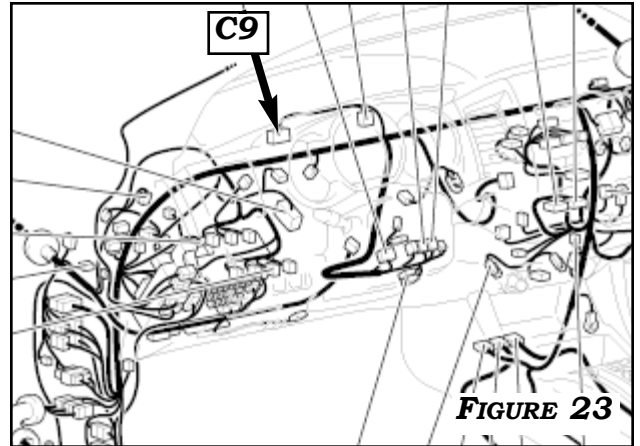
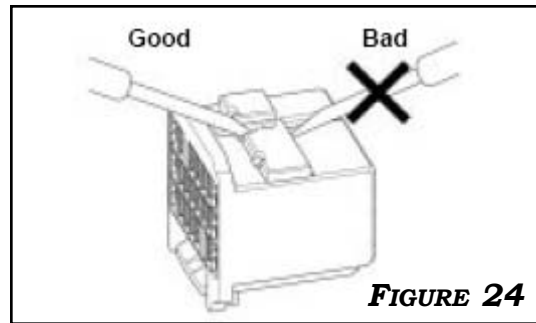

FIGURE 23
FIGURE 24
1. LOCATE WHITE CONNECTOR **C9** AT THE COMBINATION METER. **FIGURE 23**. REMOVE CONNECTOR. **BE SURE TO PULL OUT TERMINAL RETAINER AT THE CENTER OF CONNECTOR. FIGURE 24.**